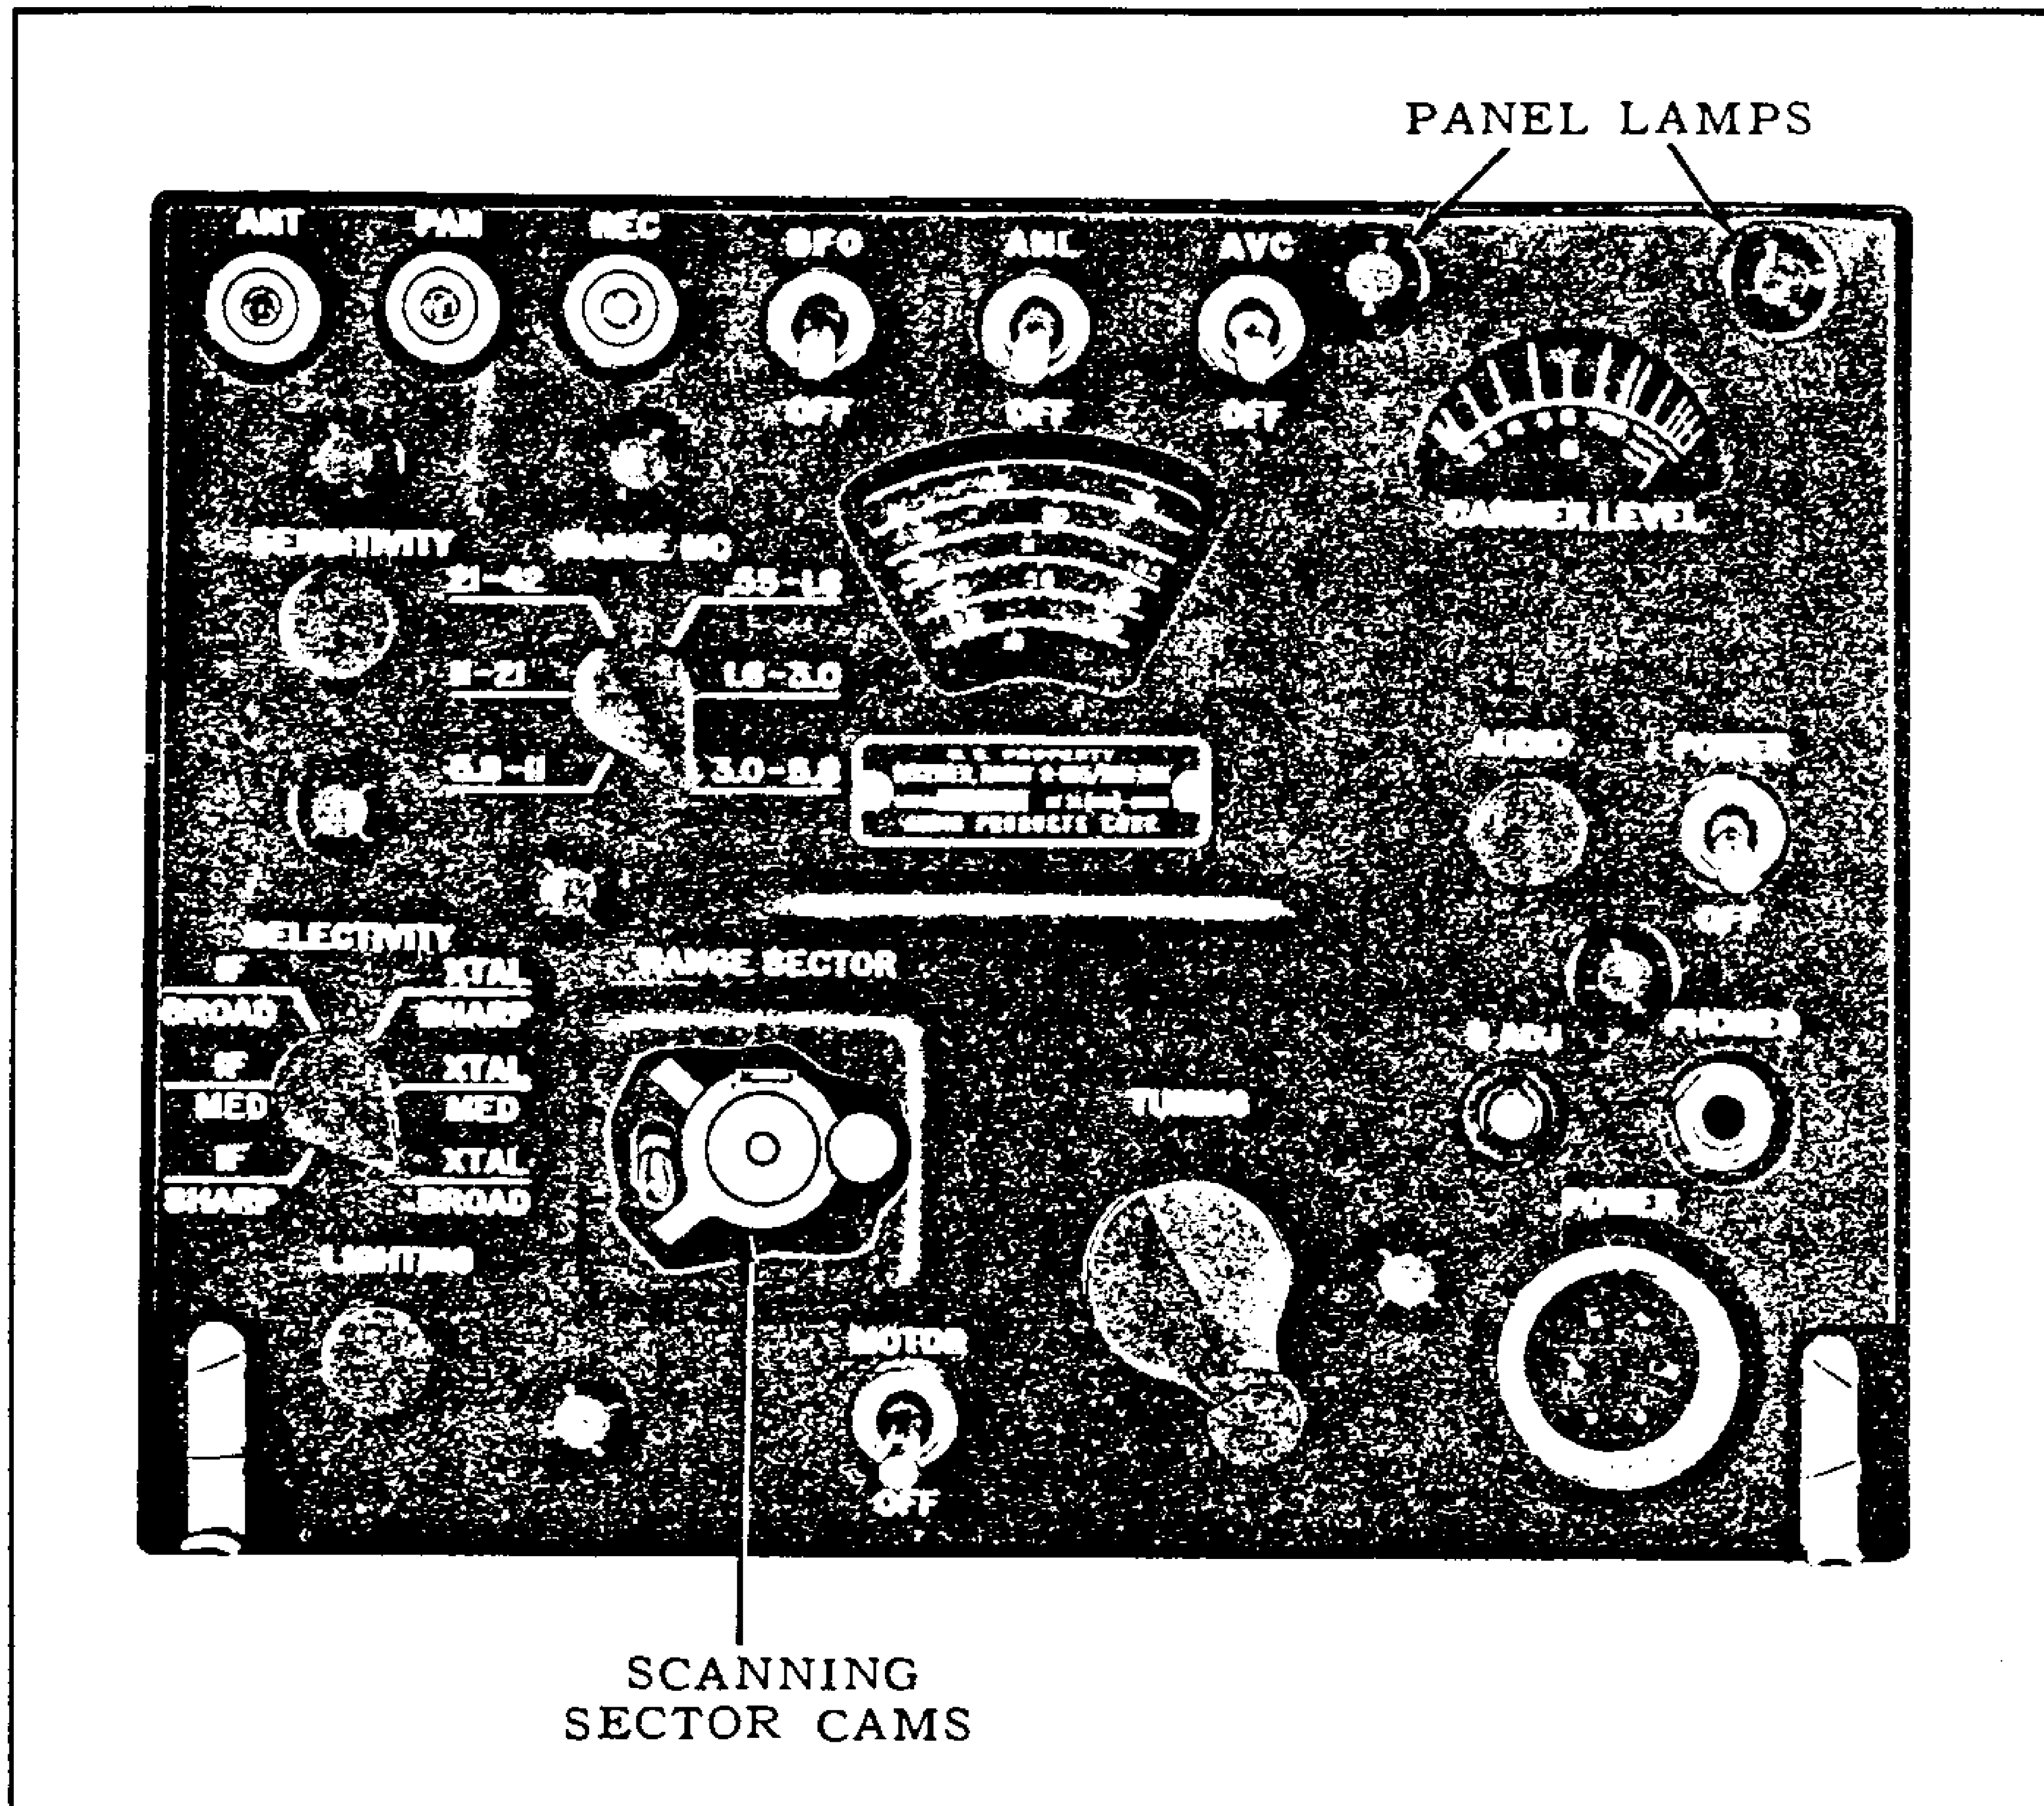

Figure 3-3. Radio Receiver R-595/ARR-7AX—Operating Controls
### 3-16. OPERATION—RADIO RECEIVING SET AN/ARR-7AX. (See figure 3-3).
**3-20. MOTOR DRIVE SCANNING.** (See figure 3-3).